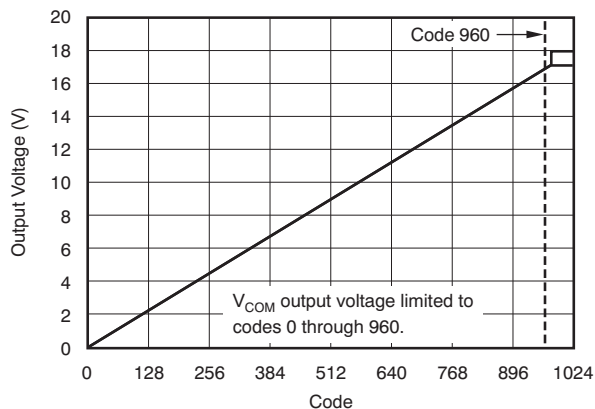

Figure 3.
(3) Observe maximum power dissipation.
(4) The  $V_{COM}$  output voltage is limited to codes 0 through 960; see Figure 3. This limitation is for  $V_{COM}$  only and does not affect DAC OUT, 1 through 8.
(5) Thermal pad attached to printed circuit board (PCB), 0lfm airflow, and 76mm  $\times$  76mm copper area.